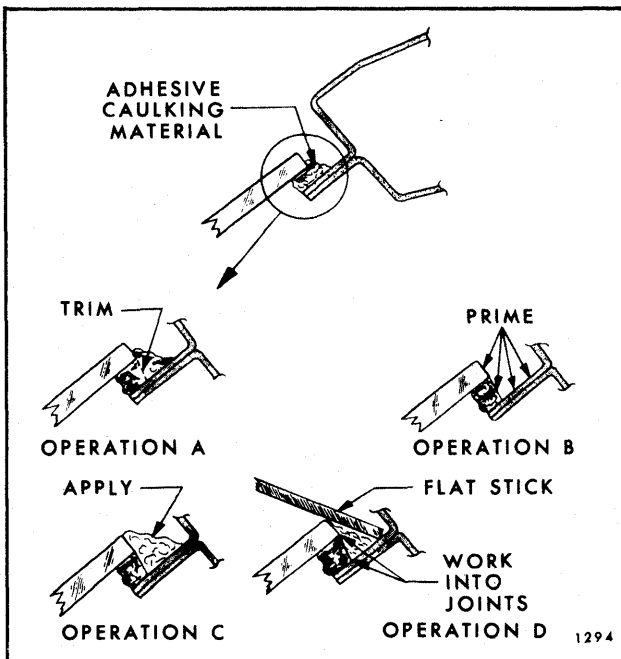

Fig. 11-13-Adhesive Glass Waterleak Correction
4. Using a sharp knife, trim off uneven edge of adhesive material (see operation "A", Fig. 11-13) at leak point and 3 to 4 inches on both sides of leak point or beyond limits of leak area.
5. Prime affected area, as shown in operation "B", Figure 11-13, with primer supplied in kit. Thoroughly agitate primer prior to use. Allow primer to dry 5 minutes.
6. Apply adhesive material, as shown in operation "C", Figure 11-13, at leak point and 3 to 4 inches on both sides of leak point or beyond limits of leak area.
7. Immediately after performing step 6, use flat stick or other suitable flat-bladed tool to work adhesive material well into leak point and into joint of original material and body to effect watertight seal along entire length of material application (see operation "D", Fig. 11-13).